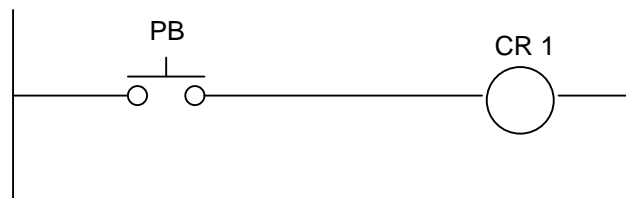

Fig. 2-3 Example of Ladder Logic
Fig. 2-3 shows a ladder rung. When the pushbutton (PB) is pushed, the circuit is completed and current flows energizing the coil (CR1).